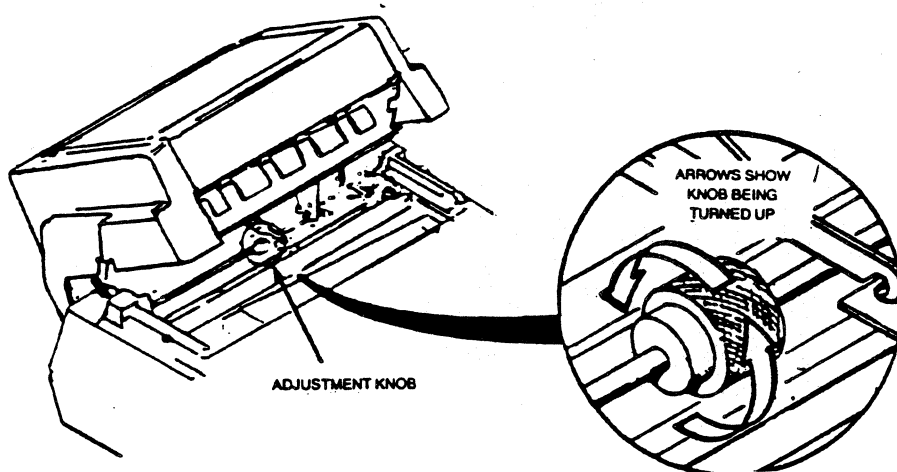

Figure E-10 Horizontal Adjustment; Adjustment Knob
1. Tilt the feeder body back and locate the horizontal adjustment knob, shown in detail in Figure E-10.
3. Turn the knob UP (see Figure E-10) to move the feeder toward the RIGHT (control panel) side of the printer. Turn the knob DOWN to move the feeder toward the LEFT (forms lever) side of the printer.*